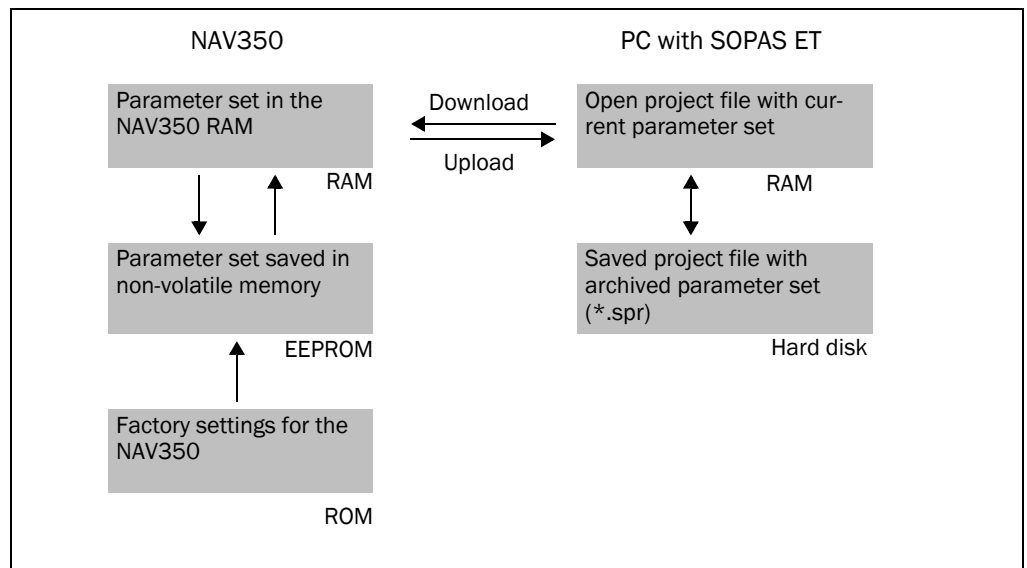

Fig. 33: Principle of data storage
4. Open project file (spr file with configuration data) using SOPAS ET and transfer configuration to the device (see fig. 33 on page 55).